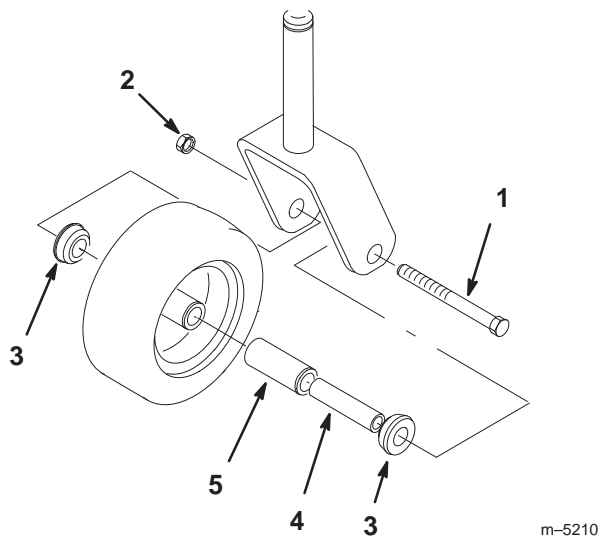

Figure 75
1. Remove the locknut and wheel bolt holding the caster wheel to the caster fork (Fig. 75).
2. Remove one bushing, then pull the spanner bushing and roller bearing out of the wheel hub (Fig. 75).
3. Remove the other bushing from the wheel hub and clean any grease and dirt from the wheel hub (Fig. 75).
4. Inspect the roller bearing, bushings, spanner bushing and inside of the wheel hub for wear. Replace any defective or worn parts (Fig. 75).
- To assemble, place one bushing into the wheel hub. Grease the roller bearing and spanner bushing and slide them into the wheel hub. Place the second bushing into the wheel hub (Fig. 75).
- Install the caster wheel into the caster fork and secure with the wheel bolt and locknut. Tighten the locknut until the spanner bushing bottoms against the inside of the caster forks (Fig. 75).